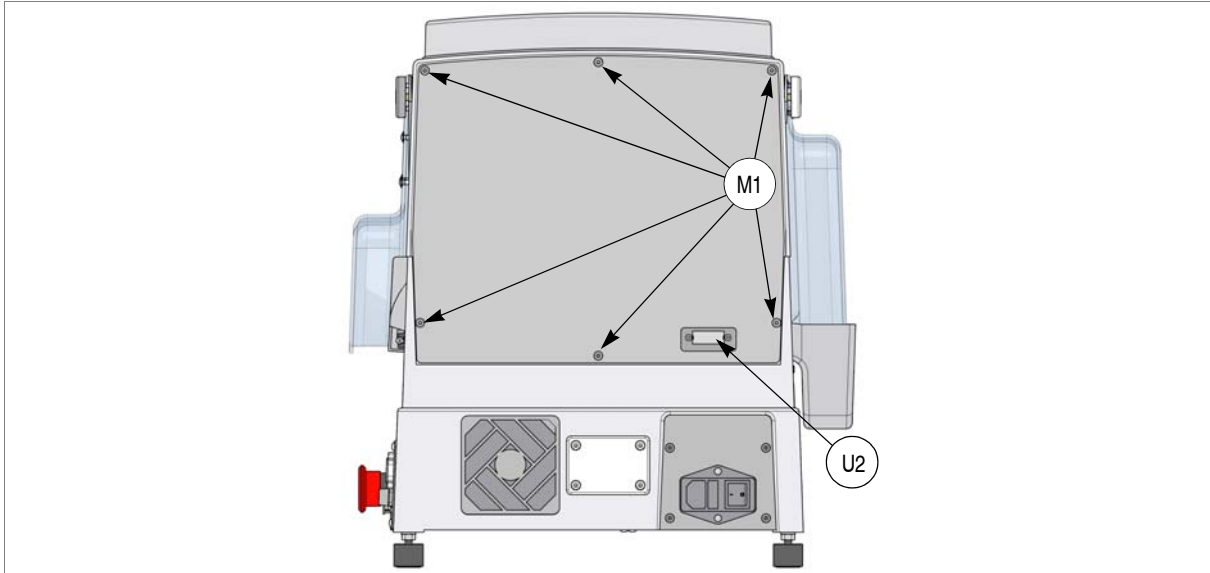

Fig. 54
- 2) remove the vacuum system's connector (U2) (fig. 54).
- 3) unscrew the 6 (M1) screws that secure the back panel (fig. 54) thus removing it.